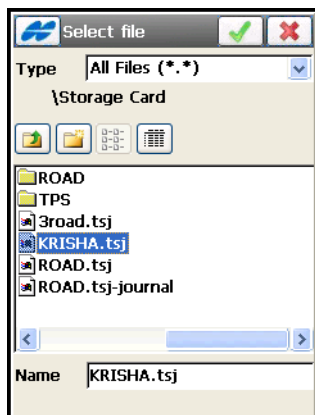

Figure 4-11. Select File to Export
- **Next** – opens the *Select File* screen (Figure 4-11 on page 4-12).
On the *Select File* screen, you can navigate to any file to export after selecting *All Files* in the *Type* field (Figure 4-11).